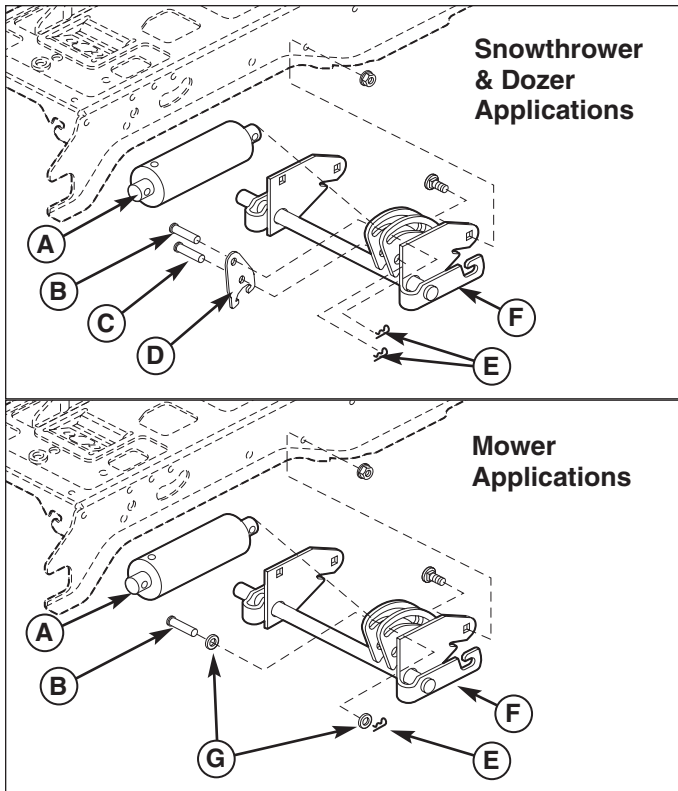

Figure 13. Lift Lock Plate - Hydraulic Lift Models
When using a snowthrower or dozer, the downward pressure lock plate (D, Figure 13) and an additional pin (C) is installed. These parts are included with the attachment. Note that the washers (G) are not used with the lock plate.